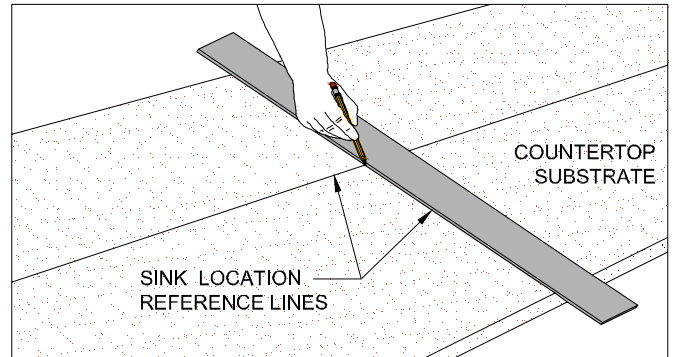

Figure 24A
- Include both vertical & horizontal alignment marks. (FIG. 24A)